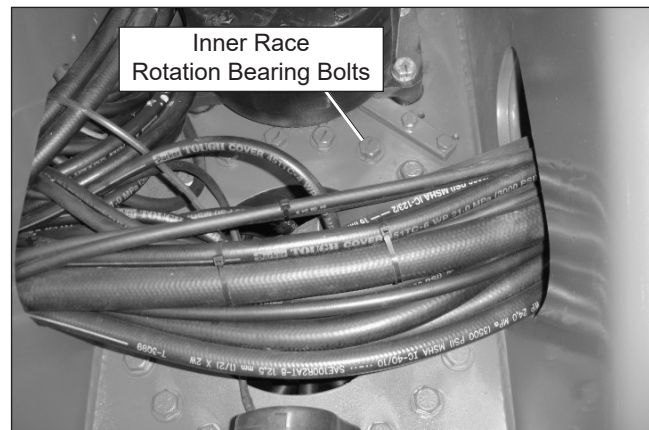

Figure 7.10 – Rotation Bearing Bolts
3. Raise the main boom to access the inner race rotation bearing bolts in the turntable (refer to Figure 7.10). The outer race bolts can be viewed from under the chassis looking upward.